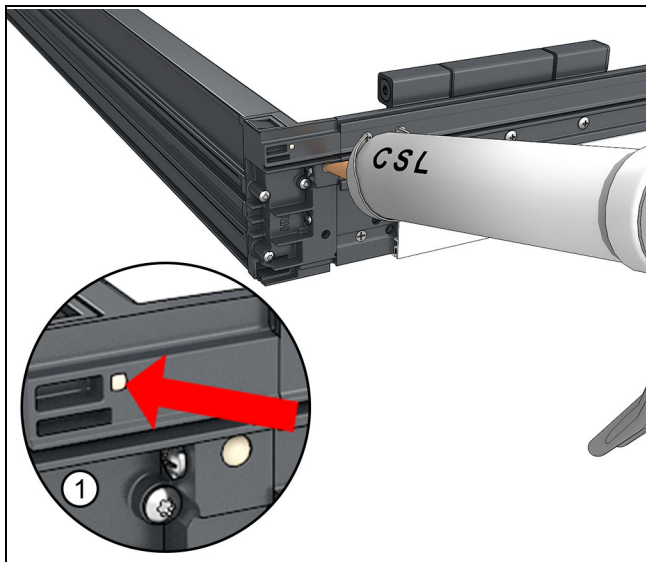

Figure 21 CSL 343 Sealant
8. At the sill corner key, inject sealant in the hole next to the nail fin kerf until sealant comes out near the weep as shown in Figure 21.